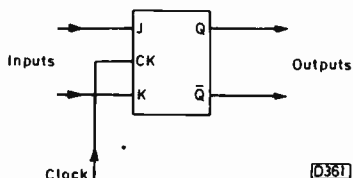

Fig. 15: JK flip-flop arrangement.
J-K flip-flop: A J-K flip-flop has three inputs and the usual two outputs, Q and \bar{Q} (see Fig. 15). The operation of this flip-flop is *synchronous*, i.e. changes occur only when a clock pulse is applied to the clock (CK) input. There are four possible states J and K can be in before the clock pulse, and the J-K flip-flop reacts to each one differently.